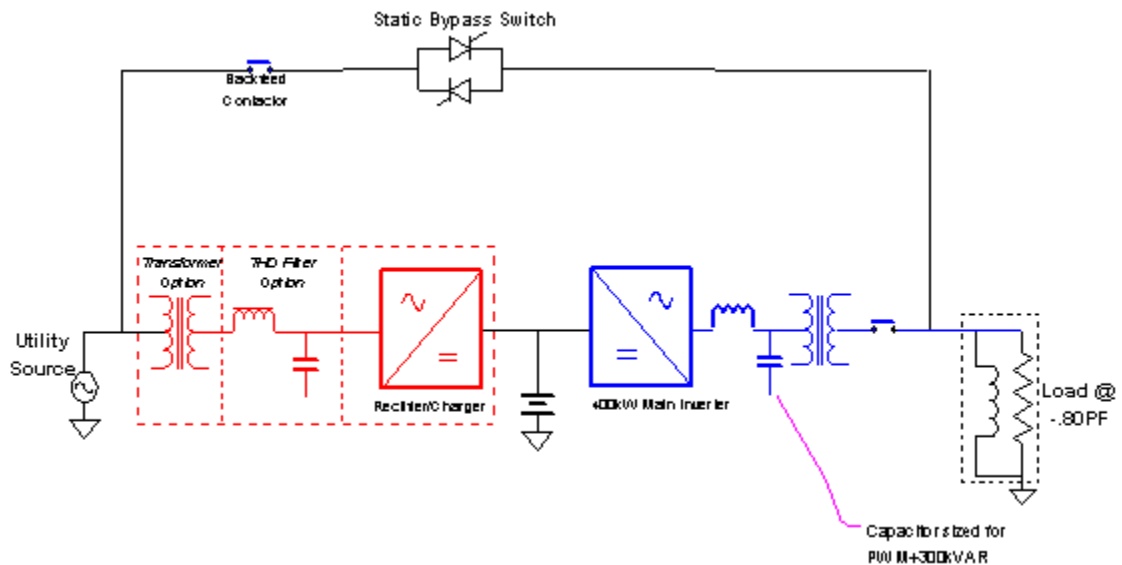

Figure 2 - Double Conversion 500kVA/400kW
The double conversion system shown in figure 2, is an old design that is output rated at PF = -.80 (500kVA/400kW). This is feasible because the main inverter is 80% kW rated at 400kW and they either use an IGBT H-bridge inverter and flyback diodes or they have to add 300kVAR to the inverter filter capacitor. The flyback diodes or the capacitor supplies the reactive power (Q) and the main inverter supplies the real power (P).